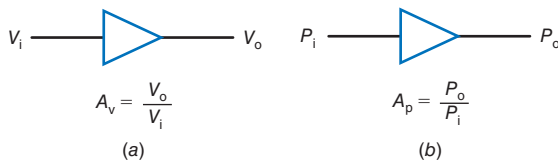

Figure 27-6 Schematic symbols for an amplifier. (a) Voltage amplifier. (b) Power amplifier.
The symbol used to represent an amplifier is a triangle, as shown in Fig. 27-6. The inputs and output are labeled. Note the difference between the voltage and power amplifier expressions for gain (A).